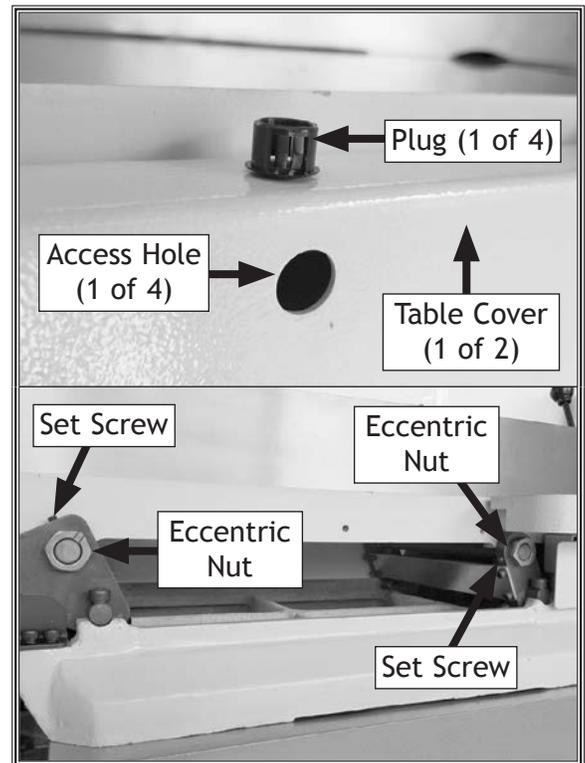

Figure 43. Accessing outfeed eccentric bushings (2 of 4).
2. Remove outfeed table covers by removing plugs (see **Figure 43**) and accessing cap screws that secure covers to table, and then loosen set screws from eccentric bolts under outfeed table (see **Figure 43**).